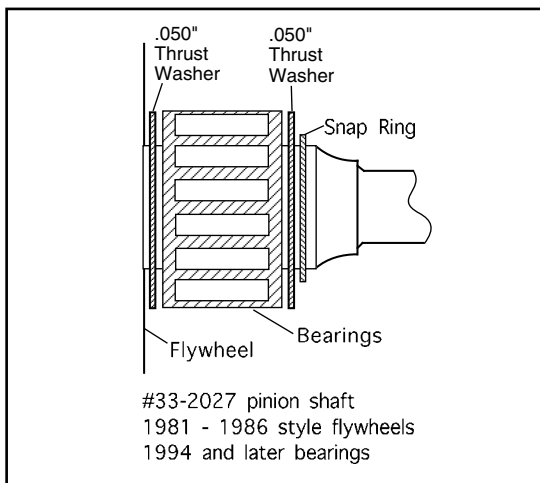

Figure 8
2. 1981 to 1986 big twin flywheels - Two .050" thrust washers are normally used. Typical arrangement - .050" washer, bearing cage, .050" washer, and snap ring. **See Figure 8.**